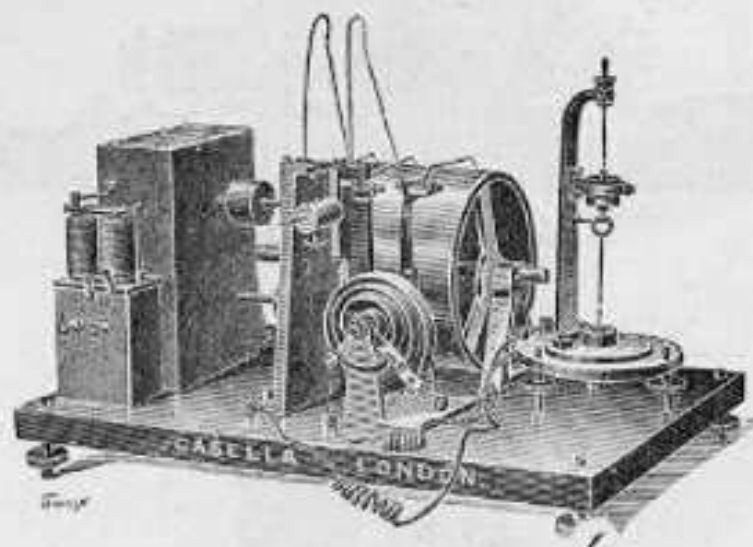

FIG. 12.
**Seismograph** for recording the movements of the earth's surface (Fig. 12).